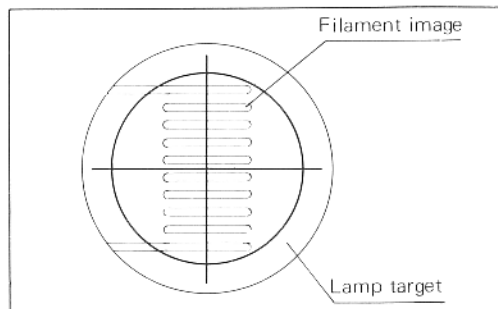

Fig. 13
- 6) Manipulate the lamp centering screws to center the filament image on the crosslines of the lamp target as shown in Fig. 13.